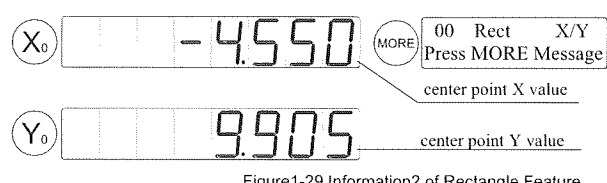

Figure1-29 Information2 of Rectangle Feature
- 2) Press , and the information is displayed as in figure1-29